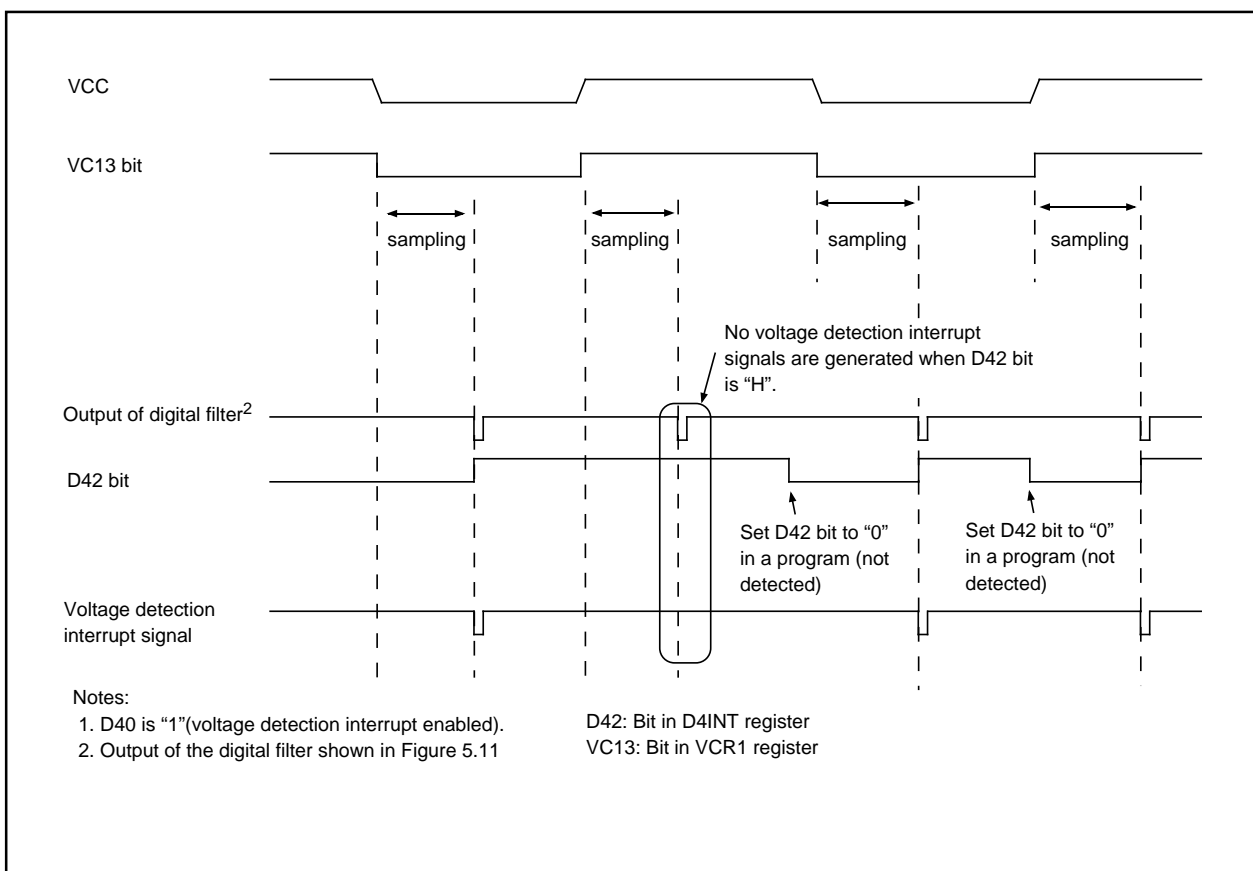

Figure 5.14 Voltage Detection Interrupt Generation Circuit Operation Example
To use the voltage detection interrupt, set the CM14 bit in the CM1 register to "0" (low-ring oscillator). Figure 5.14 shows an operation example of voltage detection interrupt generation circuit.
2. Refer to Figure 5.14, "Operation Example of Voltage Detection Interrupt Generation Circuit" for interrupt generation timing.